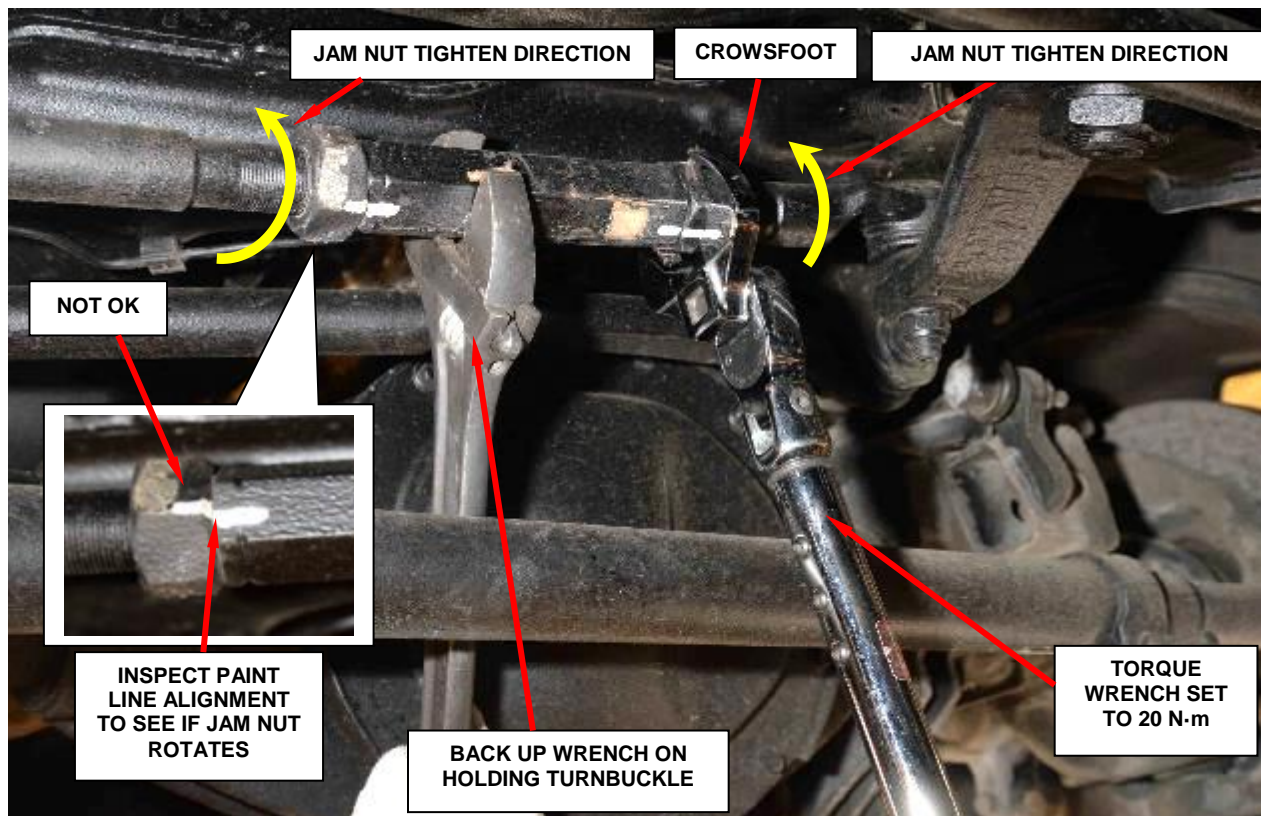

Figure 2 – Inspect for Jam Nut Movement
4. Hold the drag link turnbuckle with back-up wrench (Figure 2).
5. Using a 41 mm crow'sfoot, such as Special Tool 2069400190 (Snap-on SCOM41) or equivalent, set a torque wrench to 20 N·m (15 ft. lbs.) (Figure 2).
6. Rotate each jam nut **in direction as shown** (tightening direction) until wrench clicks or 20 N·m (15 ft. lbs.) is achieved (Figure 2).
2. After adjustment, using a backer wrench and a 41 mm crow'sfoot, such as Special Tool 2069400190 (Snap-on SCOM41) or equivalent, tighten the drag link turnbuckle jam nuts to 148 N·m (109 ft. lbs.). **Make sure the toe setting does not change during tightening (Figure 2).**
10. Using a backer wrench and a 41 mm crowsfoot, such as Special Tool 2069400190 (Snap-on SCOM41) or equivalent, set a torque wrench to 105 N·m (77 ft. lbs.) and attempt to loosen each jam nut (ref: Figure 2 for set-up).